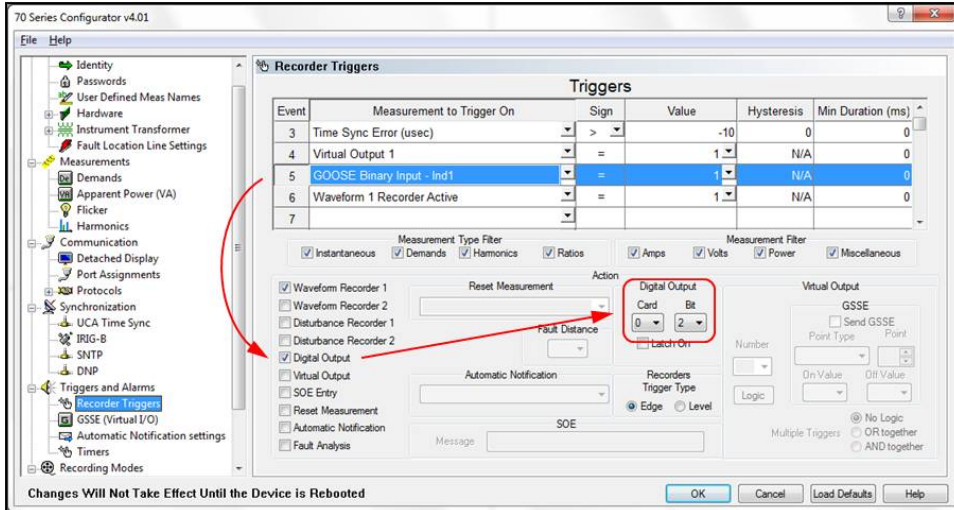

FIGURE B2. TRIGGER LOGIC TO OPERATE A CONTROL-POINT ON A P32 CARD.
1. Configure an output on the P32 card to be controlled by a virtual input defined in trigger logic. (See Figure B2.)